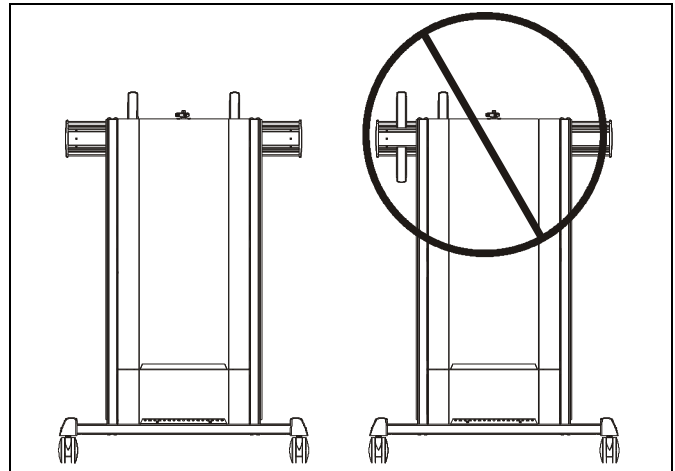

Figure 9
**IMPORTANT ! :** In order to ensure an even mount, install uprights to be centered over cart assembly. Do **NOT** install both uprights to the same side of cart assembly! (See Figure 9)